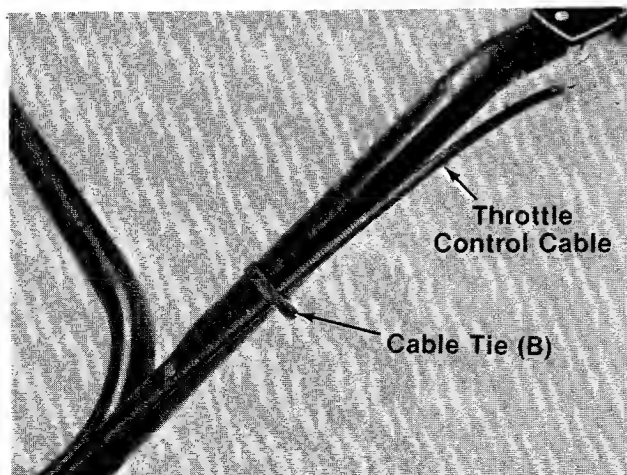

FIGURE 13.
12. Secure throttle control cable to handle with cable ties (B) provided. See figure 13.